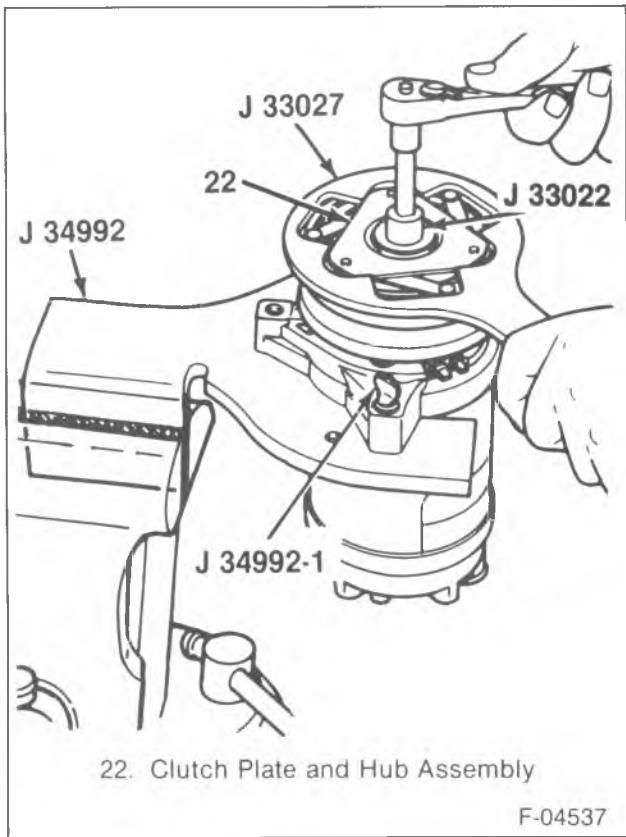
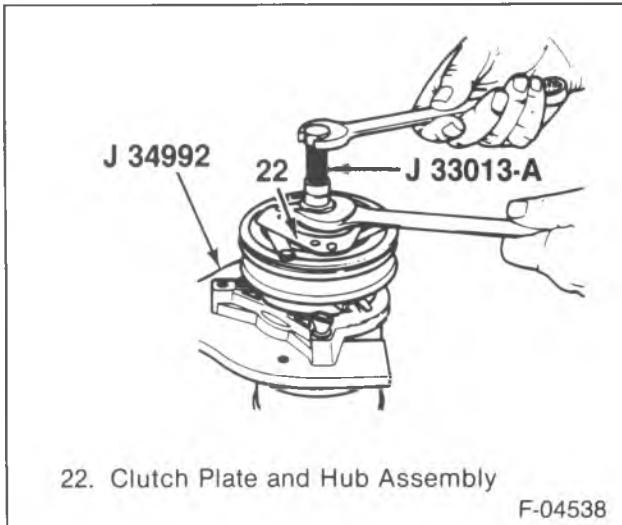

Figure 5—Removing the Shaft Nut
Figure 6—Removing the Clutch Plate and Hub Assembly
- Shaft nut (21) using J 33022 (figure 5).
- Hold the clutch plate and hub assembly (22) steady using J 33027.
- Clutch plate and hub assembly (22).
- Thread J 33013-B into the clutch plate and hub assembly (22).
- Hold the body of J 33013-B with a wrench and tighten the center screw into the remover body (figure 6).
- Shaft key (21).
- Retain shaft key (21) if usable.